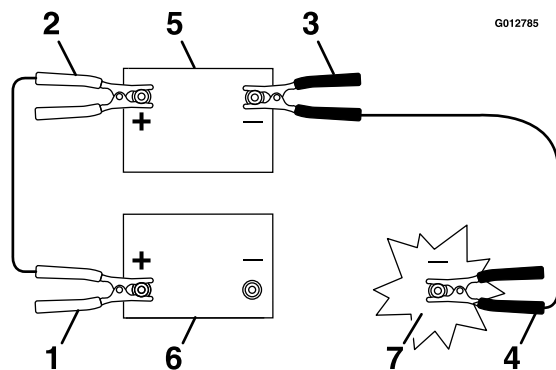

Figure 58
3. Connect the positive (+) cable to the positive (+) terminal of the discharged battery that is wired to the starter or solenoid as shown in Figure 58.